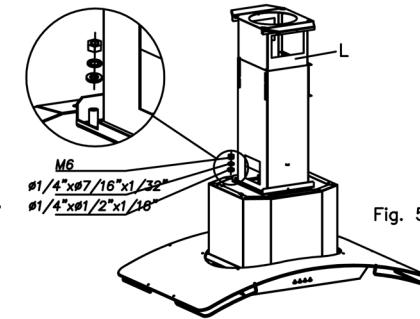

Fig. 5
- Fix the screwed structure (L) to the canopy using the screws indicated (Fig.5).